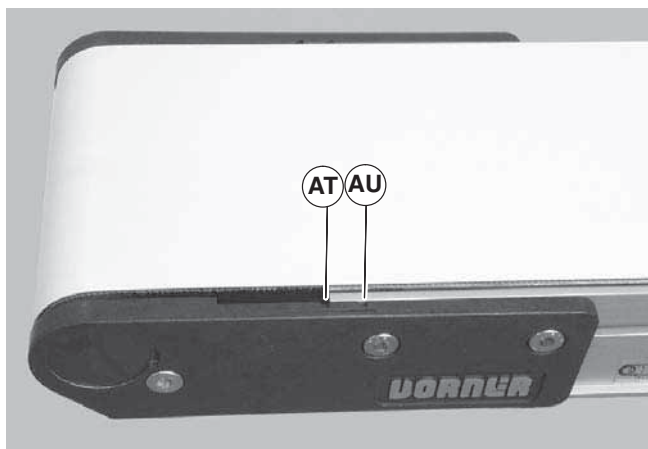

Figure 26
2. Adjust head plate assembly so end of conveyor frame aligns with or between the head plate tensioning marks (Figure 26, item AT & AU). Replace belt if proper tensioning can not be obtained while aligning the end of the conveyor frame with or between the tensioning marks. See NOTE.